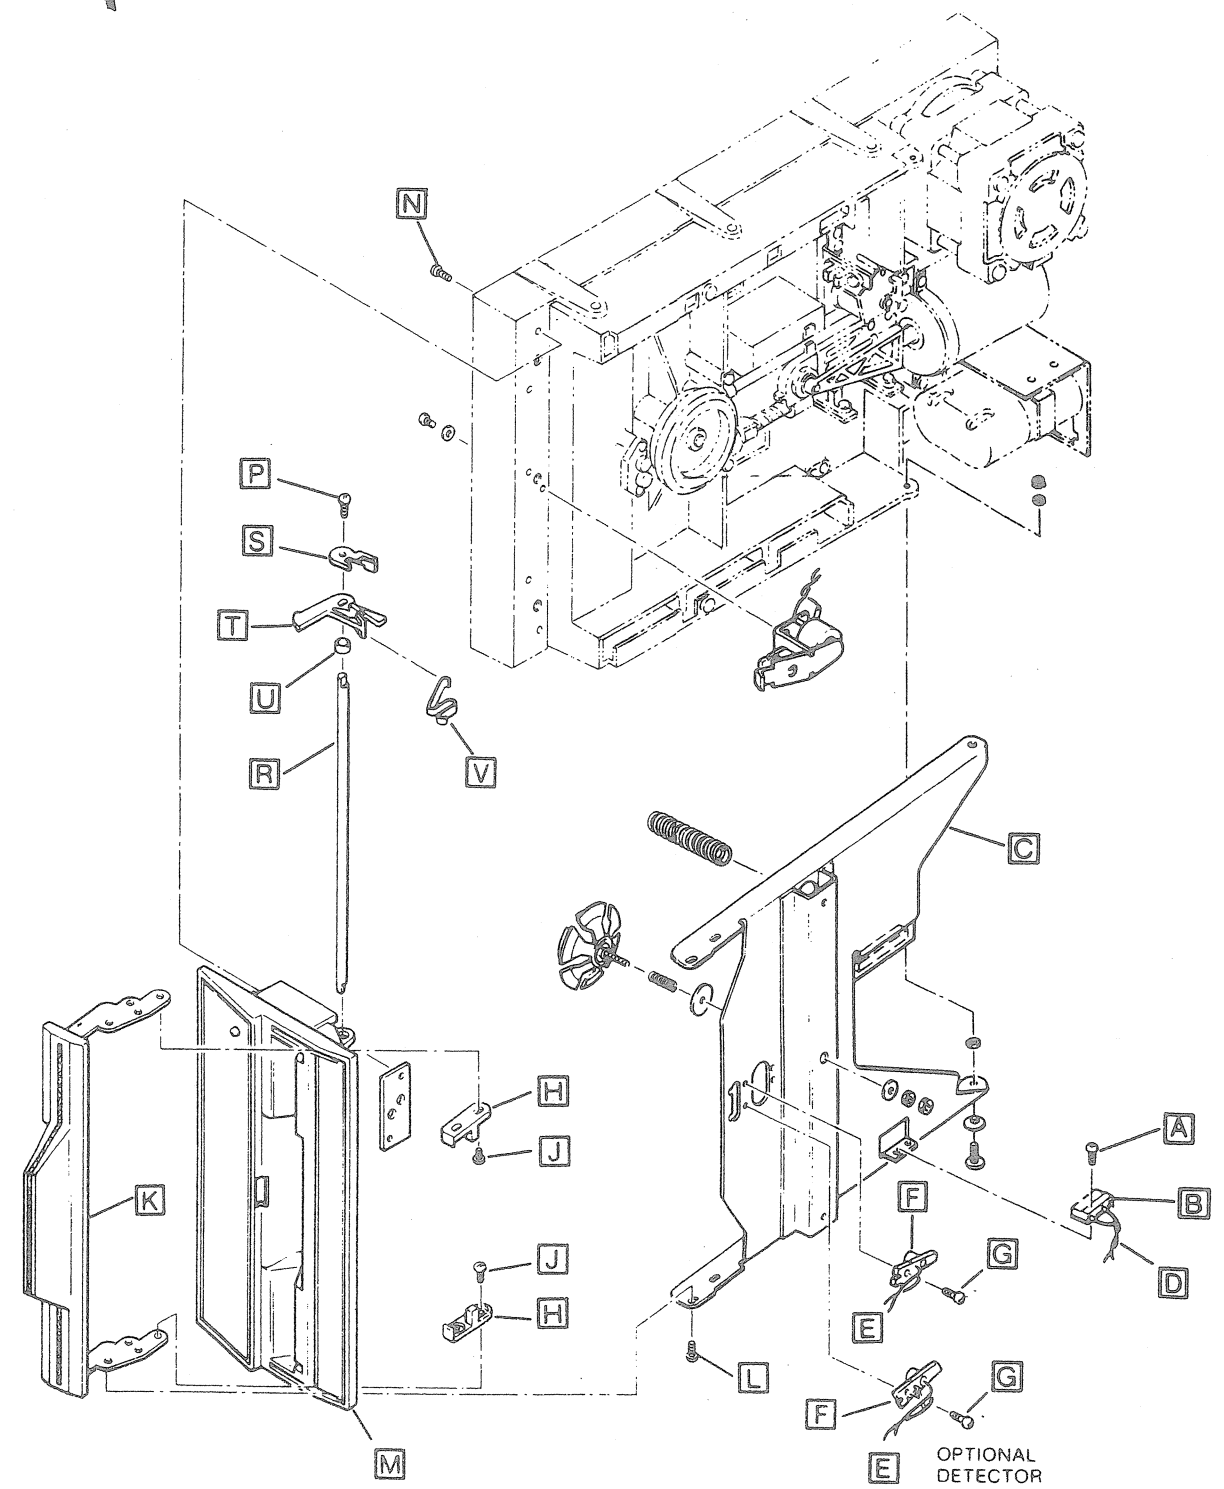

FIGURE 4-4. DOOR CLOSED SWITCH, INDEX SECTOR DETECTOR, DOOR, BEZEL AND INTERLOCKING LATCH ASSEMBLIES REMOVAL AND REPLACEMENT
- 1 The Door Closed Switch is located on the carrier assembly (shown in Figure 4-4) and secured to the assembly by two screws. The switch prevents the 550 from becoming READY unless the door is properly latched. The head cannot be loaded unless the switch is made.
The Index/Sector Detector is mounted on the carrier assembly as shown in Figure 4-4. The detector is used to detect the presence of the index hole on the flexible disc. When using hard sectored discs, the index detector is used to detect both index and sector holes as the disc revolves. The relative position of the detector on the carrier assembly mounting slot determines the timing alignment. Light from the light emitting diode, falls on the detector when a disc index, or disc sector, hole passes between the two, turns on the detector, and a threshold detector circuit generates the timing pulse.
The Door Assembly is mounted to the carrier assembly via two brackets as shown in Figure 4-4. Two interlock actuators are also attached to these brackets. The door is made of a molded, glass-filled thermoplastic. 550 operations are inhibited unless the door is properly closed and latched. The door is attached to the carrier which contains the disc clamping mechanism. Closing the door clamps the disc to the spindle, and holds the cartridge against the platen.
The two interlocking latches are attached to the Bezel via an interlock shaft. The latches lock the flexible disc cartridge in place after proper insertion. Operating in conjunction with the interlock actuators, the latches prevent the door from closing if a disc is improperly seated. The Bezel and interlocking latches are shown in Figure 4-4.